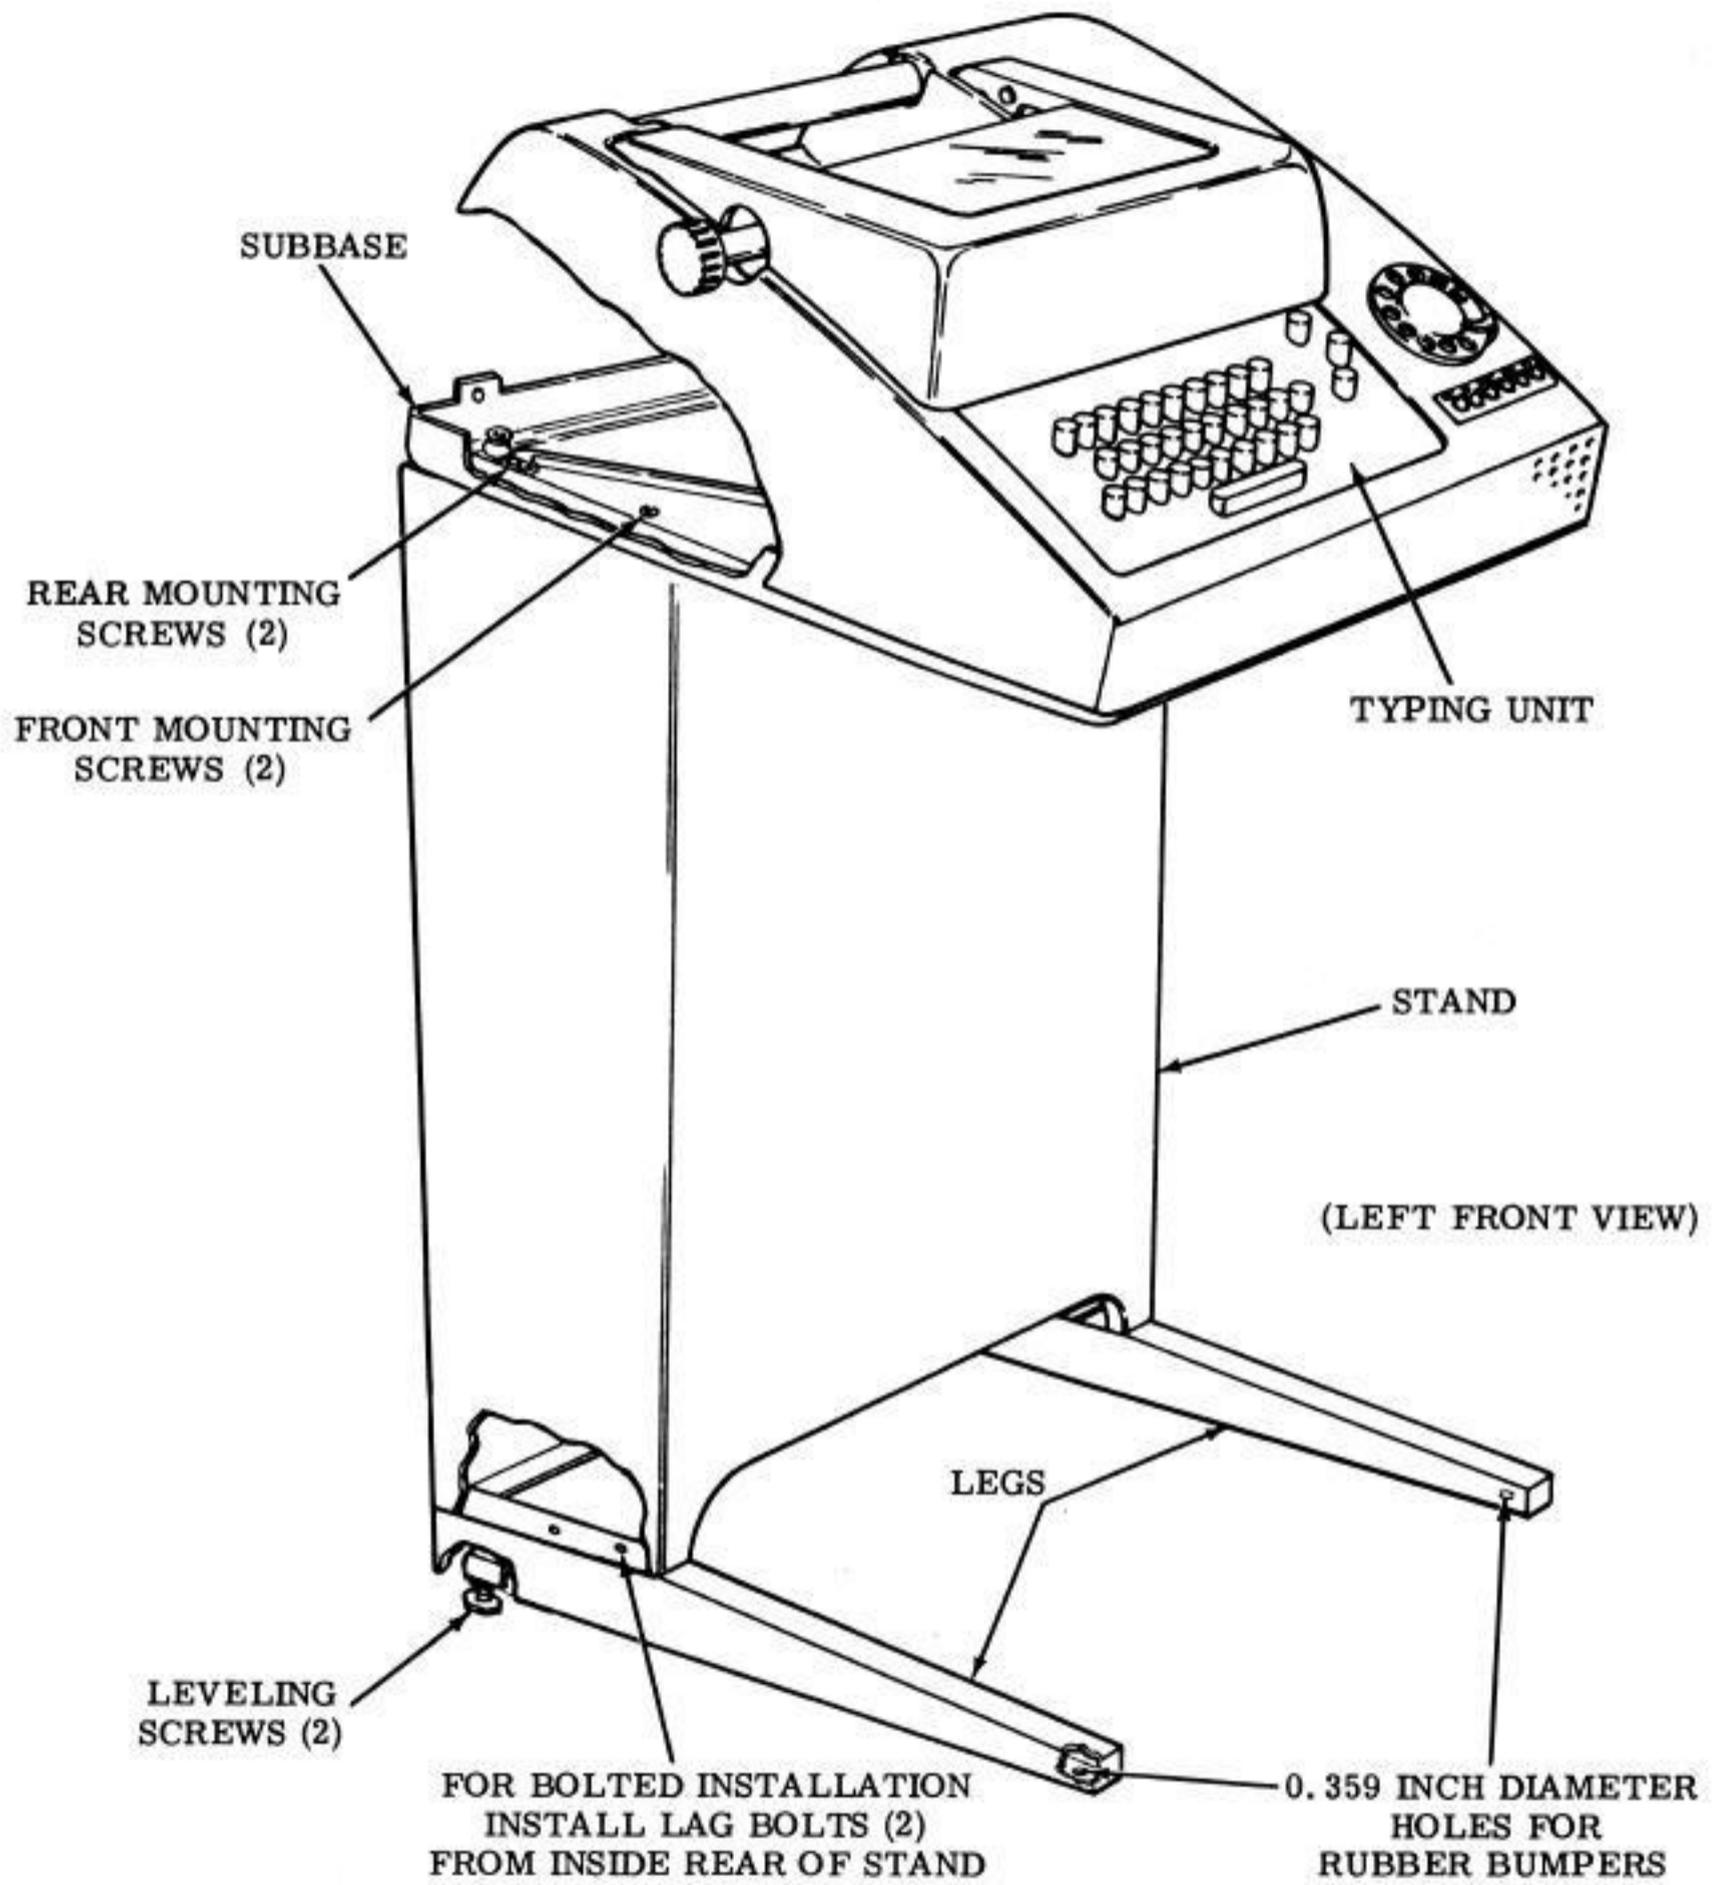

Figure 2 - Stand Leveling and Anchoring and Assembly of Subbase with Typing Unit to Stand
2.01 If the Teletypewriter Set is to be bolted to the floor, remove the front screw in each leg of the stand (Figure 2).
2.02 The subbase with the typing unit is mounted on the stand (Figure 2) by four no. 14Z screws with flat washers. Some subbases may use two no. 14Z screws and two no. 10-32 hex head screws. The two no. 14Z screws are used in two rear mounting holes, and the two no. 10-32 screws with flat washers and lock-washers are used in the two front tapped bosses of the subbase.